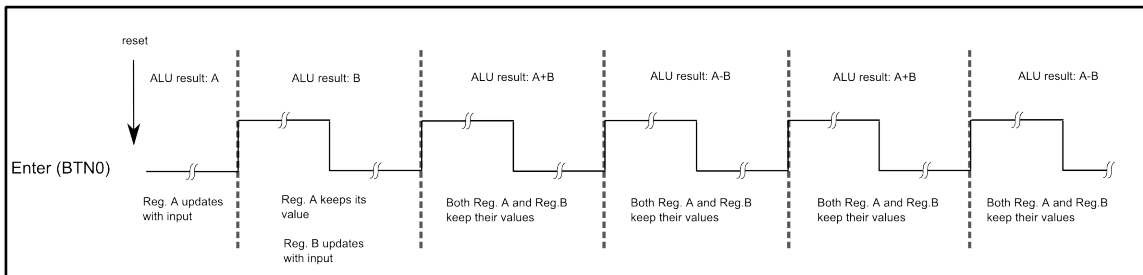

Figure 3: functionality of ALU based on the input commands
**Task 1** Propose a FSM that based on the input signal (Enter), provides the control signals to the ALU in order to achieve the required functionality shown in Figure 3. On a piece of paper draw a detailed finite state machine (FSM) for your solution. Determine what control signals must be applied to the ALU in each state. The FSM can be either of type Moore or Mealy.
**Task 2** Specify how you can use the controller you have designed previously in Task 1 to provide the proper control signals for the register update process according to the required functionality (Figure 3). On your state diagram clarify what control signals are needed based on the state of the controller.
According to the needed functionality, a controller, i.e. a finite state machine is required. It manages the behavior of the ALU while the enter button is being pressed by the user. The ALU behavior, according to the enter signal sequence is shown in Figure 3.
**Task 6** Design an entity to provide suitable inputs for the register process in this lab based on the expected functionality described in Figure 3. For your design, consider the following input ports; RegA , RegB, In, RegCtrl and the following output ports; next\_RegA, next\_RegB.
- Task 1** Propose a FSM that based on the input signal (Enter), provides the control signals to the ALU in order to achieve the required functionality shown in Figure 3. On a piece of paper draw a detailed finite state machine (FSM) for your solution. Determine what control signals must be applied to the ALU in each state. The FSM can be either of type Moore or Mealy.
- Task 2** Specify how you can use the controller you have designed previously in Task 1 to provide the proper control signals for the register update process (again as shown in Figure 3). On your state diagram clarify what control signals are needed based on the state of the controller.
- Task 6** Design an entity to provide suitable inputs for the register process in this lab based on the expected functionality described in Figure 3. For your design, consider the